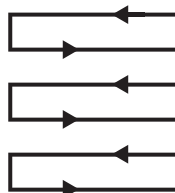

Fig. 27
5. Mow in slight overlapping rows. The most effective pattern for mowing lawns is straight lines along one of the sides. This will keep the rows even and ensures that all the lawn is cut without missing any spots (Fig. 27).